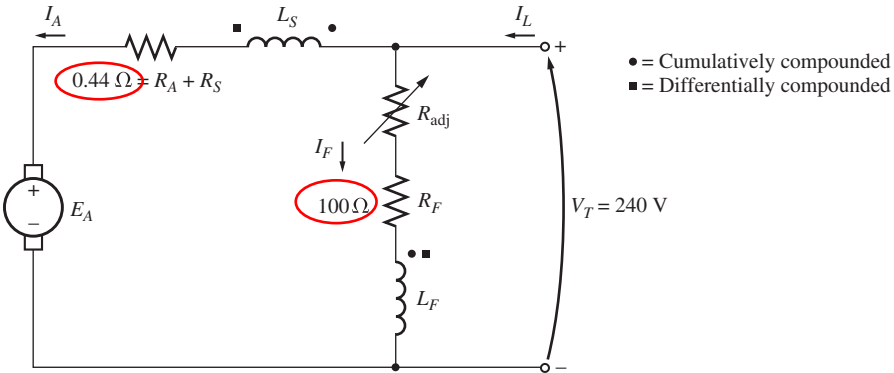

FIGURE P9-4
- 9-10.** If the motor is connected cumulatively compounded as shown in Figure P9-4 and if $R_{adj} = 175 \Omega$, what is its no-load speed? What is its full-load speed? What is its speed regulation? Calculate and plot the torque-speed characteristic for this motor. (Neglect armature effects in this problem.)